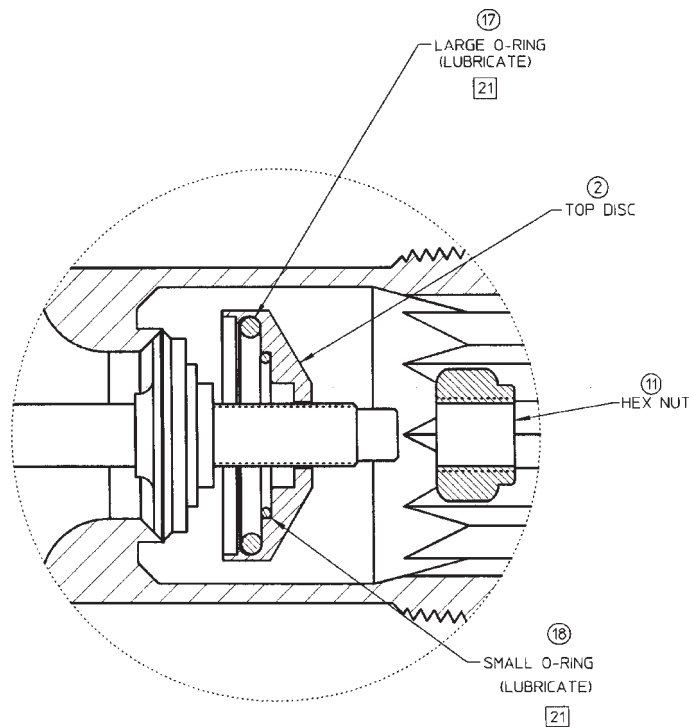

Figure 5.
- Refer to Figure 5. Apply Dow Corning #111 lubricant to O-Rings, item 17 and 18. Install the larger O-Ring, item 17, into the outer groove and the smaller O-Ring, item 18, into the inner groove of the Top Disc Holder, item 2.
- Place the Top Disc Holder and O-Rings over the Bottom Disc/Stem Weld Assembly, item 14, slowly guiding and compressing O-Rings onto lower disc holder. Install Hexagon Lock Nut, item 11.
- While still securely holding the Nut, item 8 on the end of the Stem Assembly, item 14 to prevent rotation, tighten the Hexagon Nut, item 11 to the Stem Assembly, item 14. Torque the new Hexagon Lock Nut to 12-15 ft-lb. force.